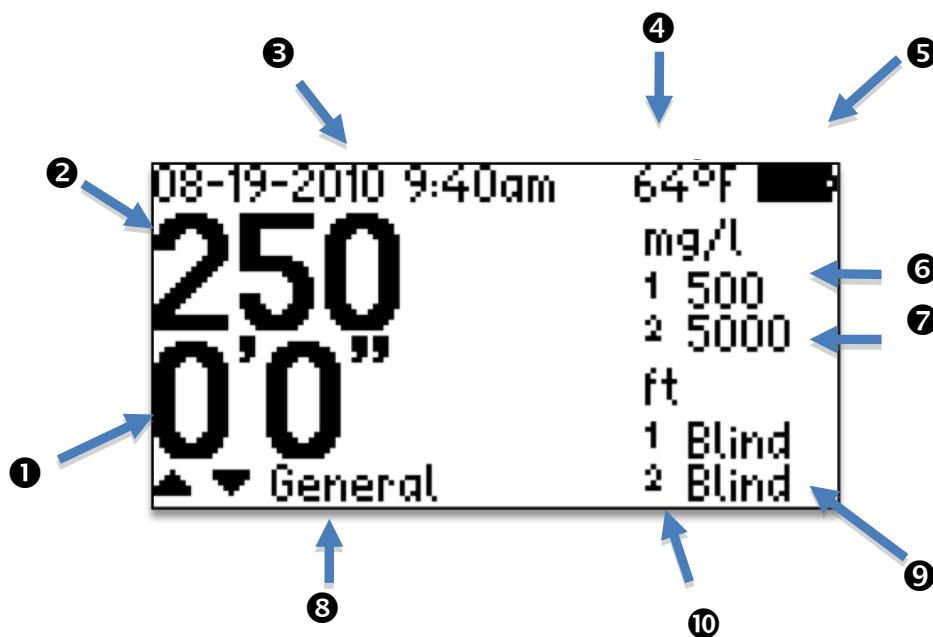

fig 1
At start up, the display is shown in fig 1 and description in fig 2. Value for solids concentration and depth are displayed on the left and alarm values for fluff (6) and sludge blanket (7) with actual depth for each as (9) & (10) below. Depths are shown as Blind until alarm for each concentration goes off. Plus date, time and temperature across the top.